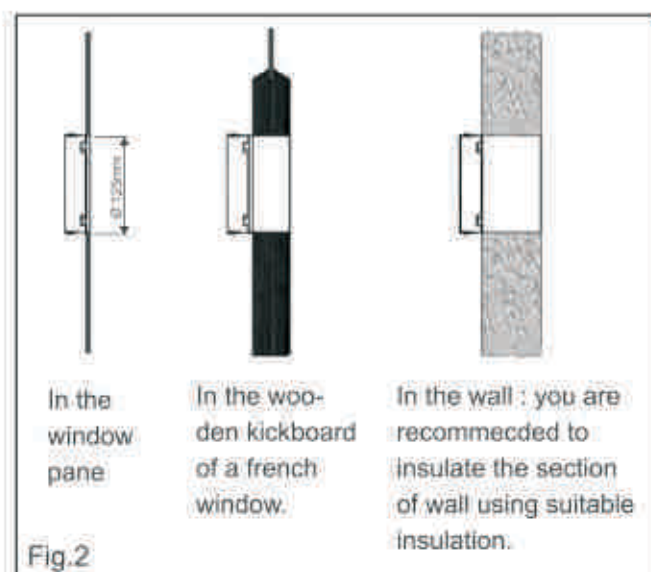

Fig.2
- Drill a hole in an outside wall or through a window pane. Respect the height and dimensions of the hole given in Fig. 2.